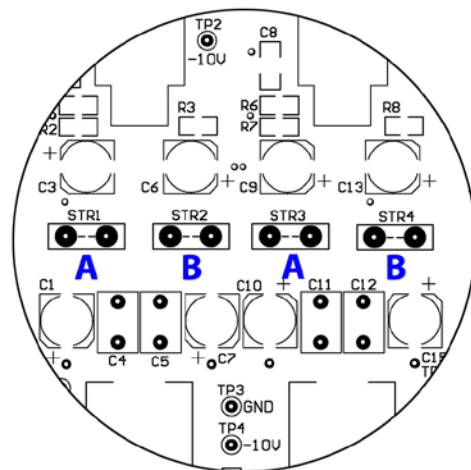

Figure 11: 310LP Circuit Board layout for external power supply
The MOON 310LP Phono Preamplifier can be operated with the MOON 320S Power Supply (purchased separately). Referring to figure 11 below, you will see an array of four (4) jumper sockets labeled STR1, STR2, STR3 and STR4. The factory default position for the 2 jumpers is in sockets STR2 and STR4 (positions B in figure 11). To properly use the MOON 310LP in conjunction with the MOON 320S, you will need to move these 2 jumpers into sockets STR1 and STR3 (positions A in figure 11). For further details, please refer to your MOON 320S owner’s manual. Failure to make these adjustments may cause damage that is not covered by warranty.
If you are using either the MOON P-8 Controller, MOON 850P Controller as power supply, or the MOON 820S Power Supply, these 2 jumpers must remain in sockets STR2 and STR4 (positions B in figure 11). You should NOT move these jumpers from their factory default position.